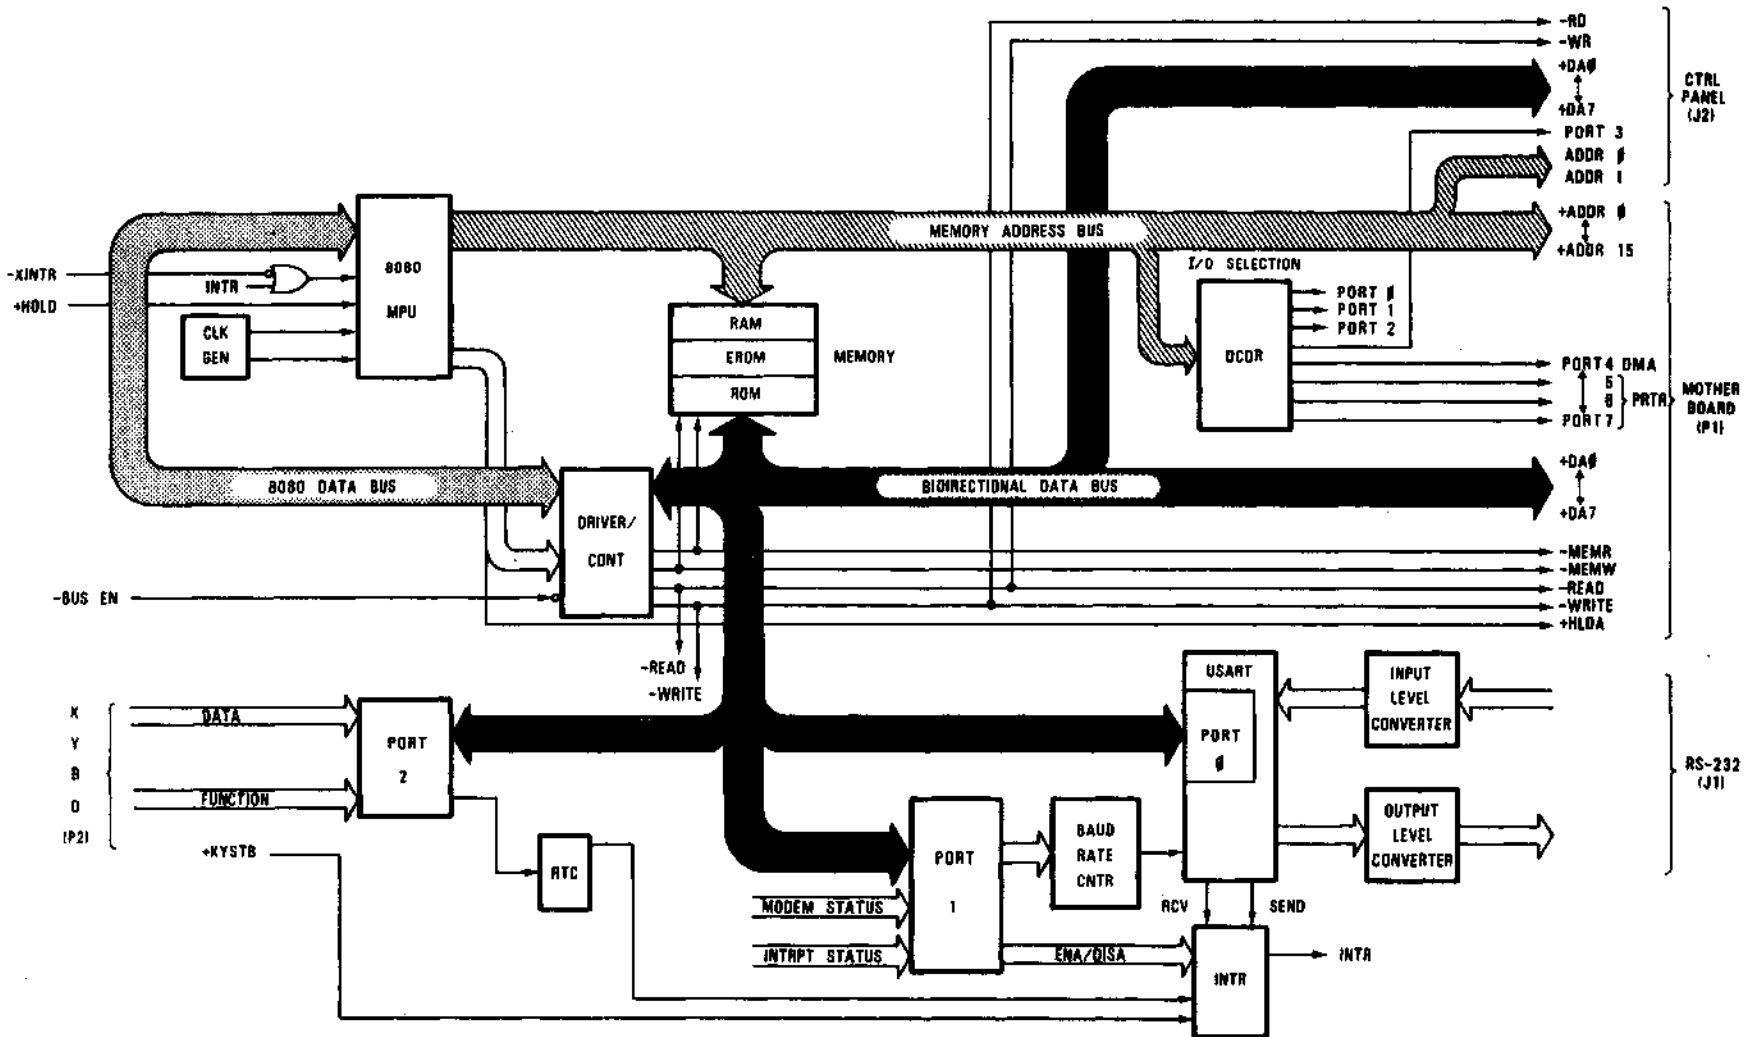

Figure 2-2. Block Diagram, HPRO3 Board
2.2 PROCESSOR (HPRO3) BOARD, PART NO. 23924-XX (Figure 2-2)